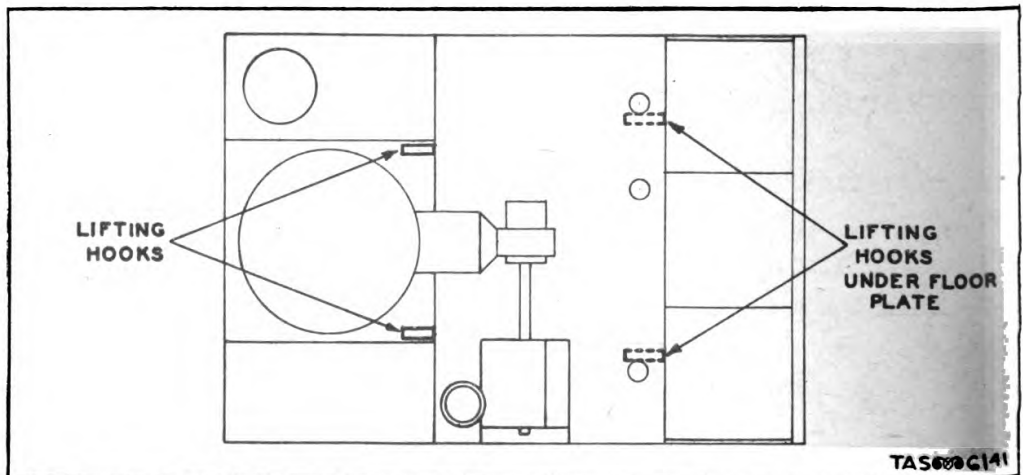
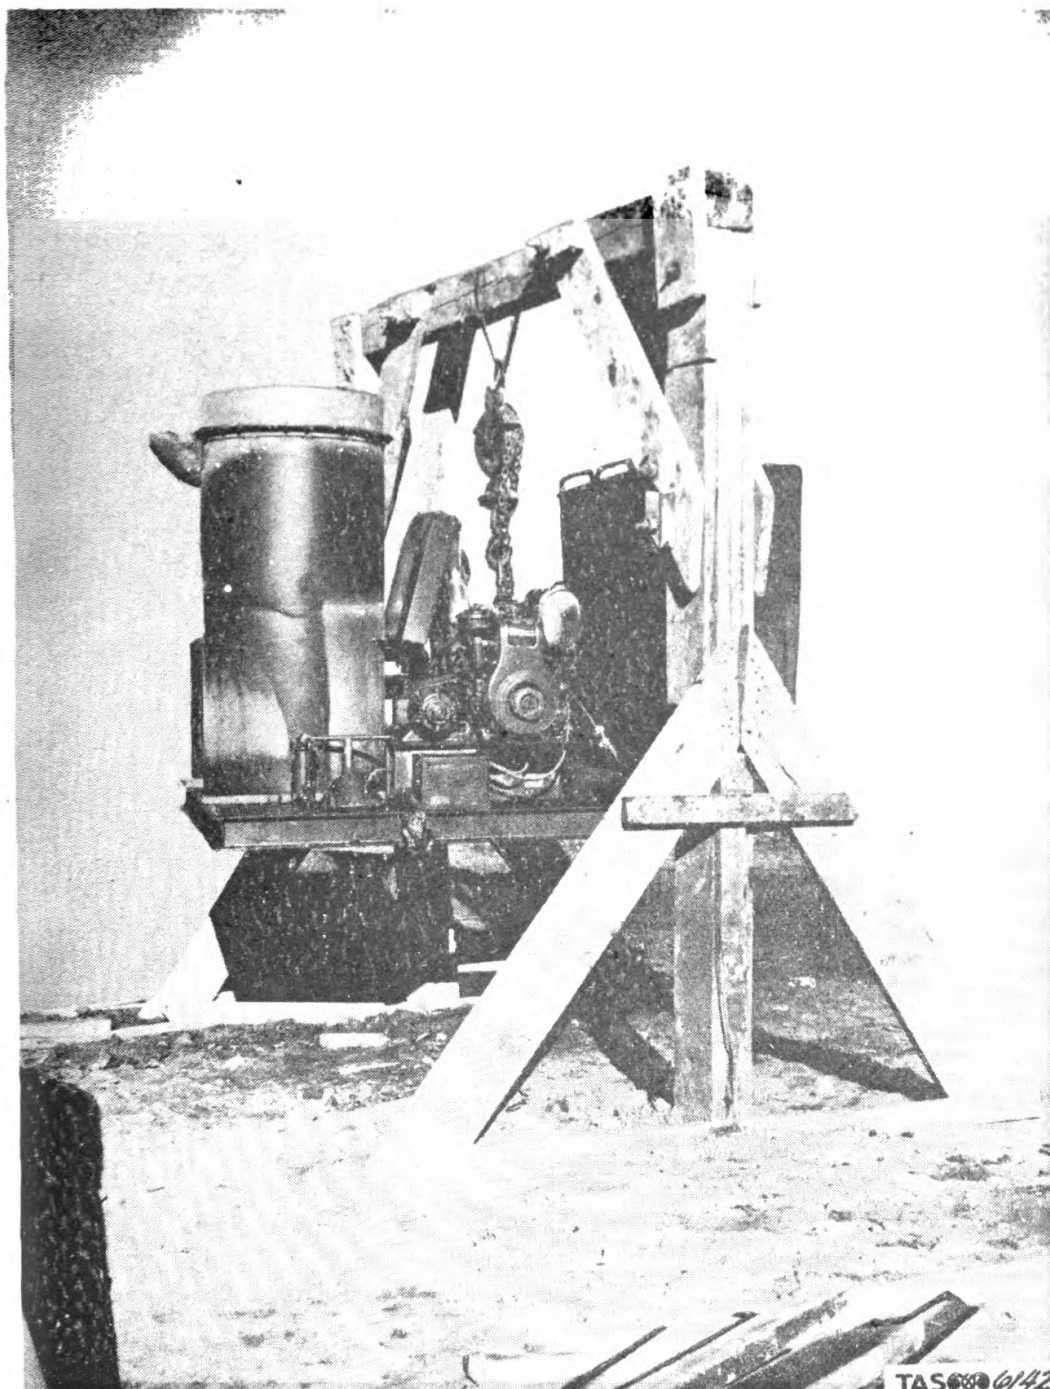

Fig. 141. Location of Generator Lifting Hooks (Loops).
Fig. 142. Lifting Scaffold.
w. Slow starter speed. (1) Battery needs recharging.
- (2) Loose or dirty battery terminals.
- (3) Worn commutator brushes. Replace.
- (4) Sticking commutator brushes. Free and check spring tension.
- (5) Dirty or worn commutators. Clean.
34. **HANDLING.** For purposes of lifting and moving it, the mechanical smoke generator is equipped with four hooks (loops) attached to the frame as shown in figure 141. Block and tackle also are issued to all smoke generator companies. For purposes of lifting the generator - which must be done when it is removed from railroad cars or placed on vehicles - the company must provide itself with some sort of heavy scaffold such as that pictured in figure 142.